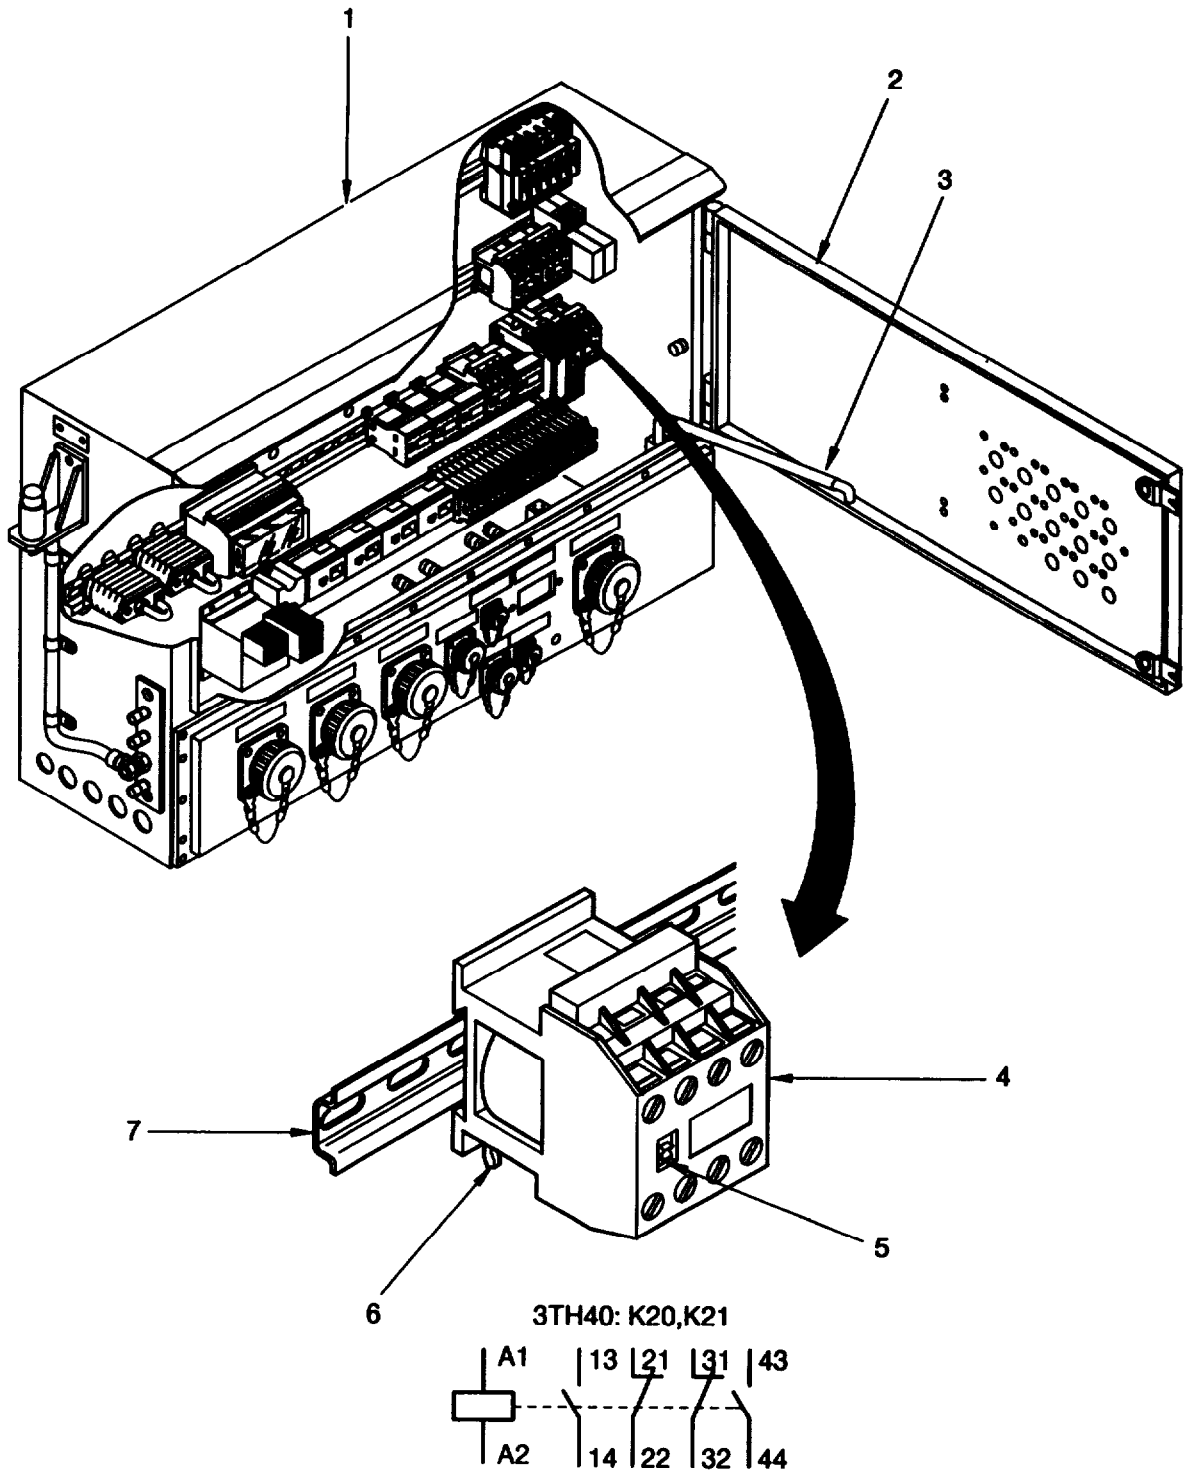

Figure 4-44 Auxiliary Contactor- K20, K21.
- a Remove stanchion by PDU (1, figure 4-44).
- b. Open access door (2) and secure with prop (3).
- d. Record labeling and position of cables of auxiliary contactor (4), loosen screws, and disconnect cables.
- e. Use a screwdriver to push locking element (6) on auxiliary contactor (4) in direction of arrow, tilt auxiliary contactor upward, and remove from mounting bar (7).
- d. Operate plunger (5) manually to the energized position.
- e. Using multimeter perform continuity check as indicated in figure 4-44.